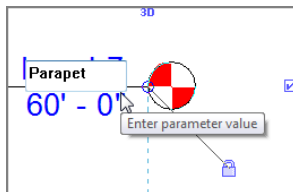

FIGURE 3.10: Renaming the level
4. Type Parapet, as shown in Figure 3.10, and press Enter.